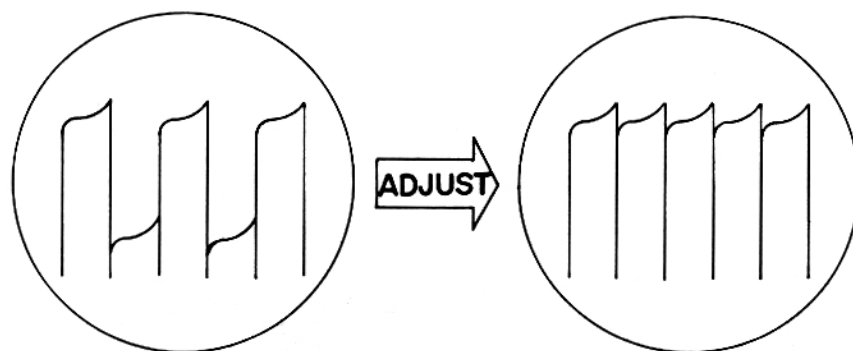

Fig. 9
3. Observe the waveform. Make the peak of the pulse waveform uniform by adjusting the semi-fixed resistor HVR603. (HVR604 for right channel) (See Figure 9)